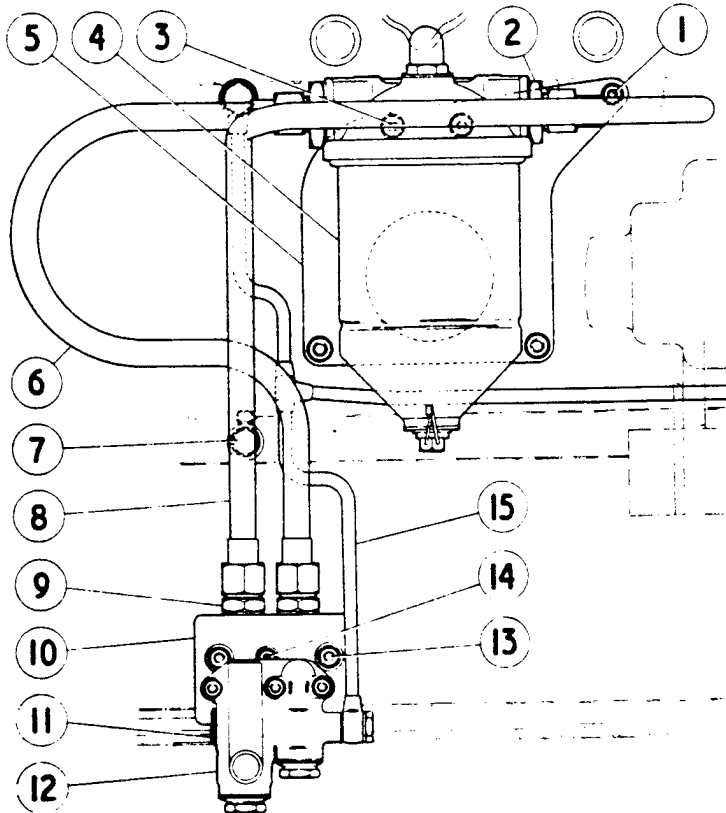
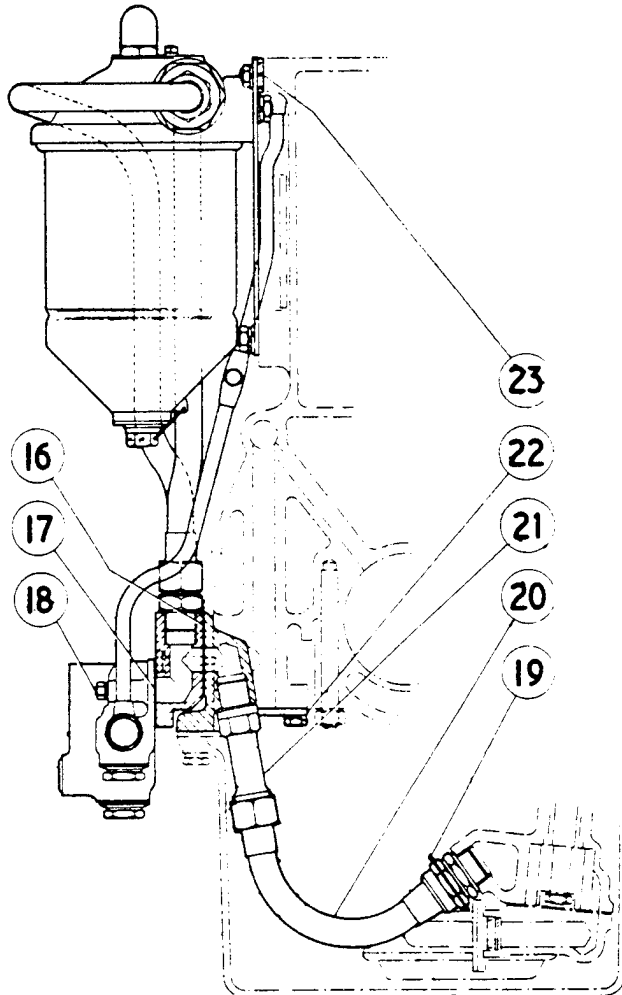

FIG. 9. FRONT ELEVATION - FULL FLOW OIL FILTER.
FIG. 10. END ELEVATION - FULL FLOW OIL FILTER.
The hole should be tapped sufficiently to allow the threaded end of the pilot of the spot facing tool, R-4670 to be a 'feel' fit when screwed into position, this will also allow the threaded end of the stand pipe, (21 Fig.10) to be a similar fit, i.e. not tight or slack, when fitted. As the wall thickness of the hole may vary from engine to engine, the reaming and tapping operations should be carefully carried out.
NOTE: In the unlikely event of the lug having been machined back on an engine prior to 'H' series chassis, then it will be necessary to fit the circular distance piece (23 Fig. 10) interposing it between the filter mounting plate and the lug when fitting the mounting plate and filter assembly to the crankcase as described in Sub-para. xv.
- (vii) After removing ALL TRACES OF SWarf from the crankcase, blank off the original vertical oil feed hole to the oil gallery inside the crankcase by fitting the cover, 22 Fig. 10, securing it with the two setscrews and lockwashers. Thoroughly clean internally all oil pipes.
- (viii) Fit the standpipe (21) and joint washer to the .750" dia. tapped hole in the crankcase. With the oil pump in position, fit the new oil feed pipe (20), securing the union nut (near pump) with the existing locking plate (19). SET NEW PIPE IF NECESSARY TO AVOID
(x) Fit the three studs, 18 (2-BA x 1.600" long) to the transfer block (10 Fig.9), also the two adaptors (9) and joint washers. Place the block complete with its Vellumoid joint R-4497, on to the crankcase.
(xi) Remove the union from the oil relief valve unit and fit the core plug (11) and joint washer. Place the unit and the Vellumoid joint (EB-3953) on to the transfer block. While tightening up the three nuts to secure, check that the end of the centre stud (14) or nuts securing the transfer block to the crankcase do not foul the casing of the oil relief valve unit. The unit is inverted for fitting under this arrangement as shown in Fig.9.
- (xiii) When offering up the lower half of the crankcase, it will be found that the union nut securing the oil feed pipe to the standpipe (21) fouls the oil baffle ('A' Fig-11) and the locating lug at points 'B'. Remove the baffle and file the lug until it just clears the nut and then file the edge of the baffle to suit. It may also be necessary to file the inside of the lower half of the crankcase to clear the nut. Refit the baffle.
- (xiv) With the crankcase lower half assembled to the engine, fit the low pressure oil pipe assembly, (15) and joint washers.
- (xv) Fit the two unions (2 Fig.9) and joint washers to the filter and attach it to the mounting plate by means of the two setscrews, (3) spring and plain washers. Fit the assembly to the crankcase. (See "Note" under Sub-para. vi of Para. 7, concerning the circular distance piece, 23 Fig.10). With a syringe, inject a recommended S.A.E.20 engine oil into the filter through EACH of the two unions until it is full, then connect the inlet and outlet oil pipes (6 & 8) to the transfer block and filter.
- a) Before starting up the engine, unscrew the union nut of the inlet oil pipe (6 Fig.9) from the union on the filter, and with a syringe, fully prime the pipe and then prime the oil filter. Reconnect the union nut.
Concerning Scheme 'B' of Service Bulletin No. BB-143 (Section E), it has been brought to our notice that in one or two instances the external inlet and outlet oil feed pipes, (6 & 8 Fig. 9 of Bulletin No. BB-143) to and from the Full Flow Filter have been reversed when fitting to the transfer block (10). This arrangement causes the filter element to collapse and block the oil flow.
It will be observed upon reference to Fig. 9, that the lower end of the inlet oil pipe (6) is connected to the right-hand side of the transfer block and the outlet oil pipe (8) to the left-hand side.